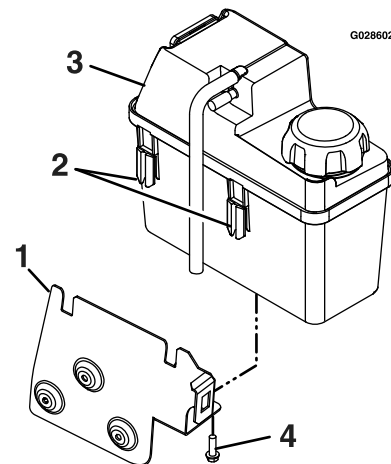

Figure 6
3. Secure the fuel tank to the tank bracket with the self-tapping screw(s) as shown in Figure 6. Torque to 40-50 in-lb (4-6 N-m). Do Not overtighten the screw(s).